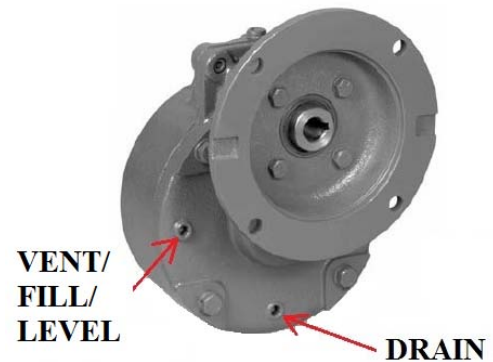

Figure 1
B. If your unit is direct drive (ie. no gearbox) proceed to Step C. For transportation the units are supplied as sealed gearboxes, i.e., in place of the breather plug, a pipe plug has been installed. The breather plug accompanies the unit in a poly bag. After installation, install the breather in place of the plug. In addition, the oil level should be checked. Remove the oil level plug (See figure 1). The oil level is correct when the surface of the oil is even with the lowest point of the tapped hole. If low use an oil as recommended in bulletin 05-125.